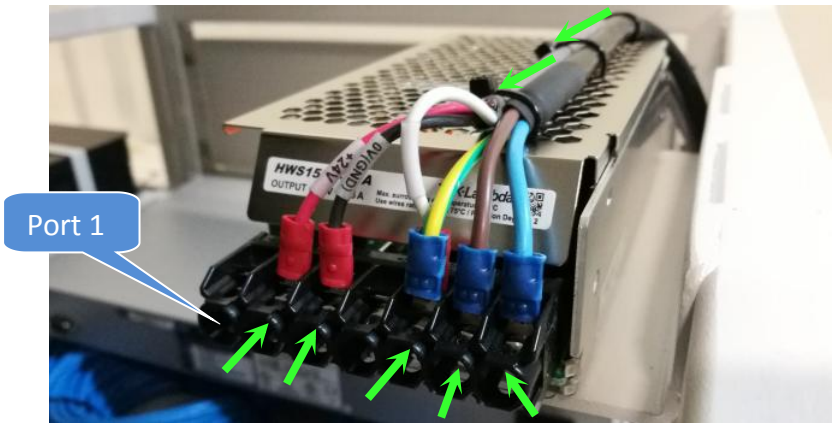

Figure 7 Wire connection
10. Connect the cable as Figure 7 by refer to Table 1. Perform minor Cable Dressing